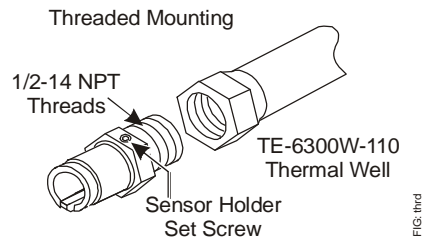

Figure 10: Installing the Threaded Sensor Holder
- **Threaded** (TE-63x2P-1), see Figure 10 and screw the sensor holder into the thermal well.